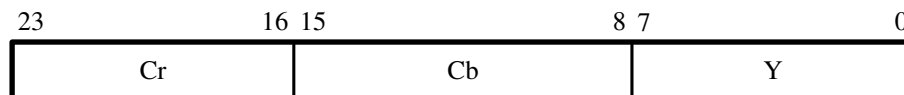

Figure 22. YCrCb 4:4:4 Color Space.
- YCrCb 4:4:4 — This format is the normal YCrCb with all components as shown in Figure 22. This mode is defined as 8 bits per color and three color planes.